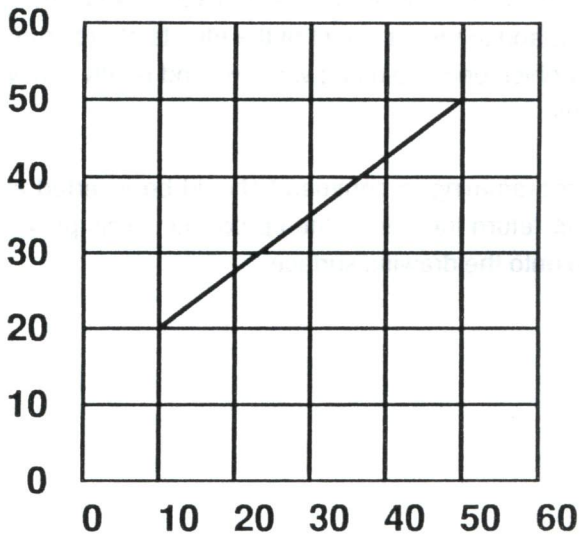

Fig.7. Cartesian Co-ordinate System.
The PLOTMATE plotting area should be regarded as a Cartesian Co-ordinate System, extending over thousands of plotter units. Plotter units are used to define distances along the horizontal (X) and vertical (Y) axes. Individual plotting points are located, using both X and Y co-ordinates to express the distance in plotter units from the 'home' position. See Fig.7.